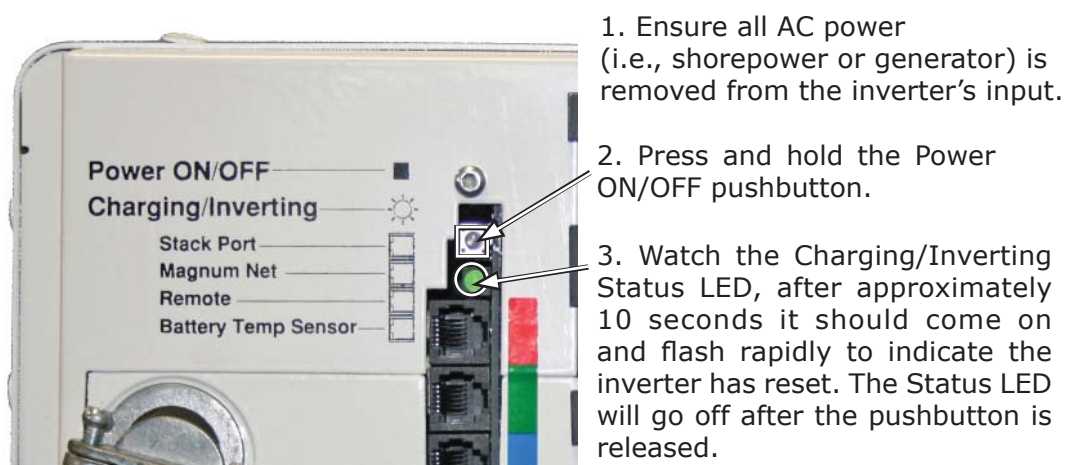

Figure 4-1, Power Reset
2. Press and hold the Power ON/OFF pushbutton (see Figure 4-1) for approximately ten (10) seconds until the Charging/Inverting Status LED comes on and flashes rapidly.